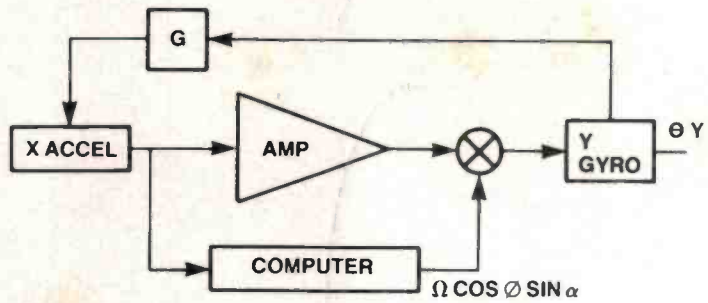

Figure 12. System alignment servo loops.
Fine alignment, together with gyro-compassing circuit configuration, is shown in Figure 12. The top feedback loop identifies levelling. This involves setting the pendulums of each accelerometer to the null position, each pendulum at 90° with respect to the other two. This is implemented by connecting the X-axis accelerometer output, via a function generator (G), to the Y-axis gyro and vice-versa. When the errors between the X and Y axes are zero, the Z or gravity axis is automatically in alignment. This provides one of the unknown vectors; gyro-compassing provides the other.
The bottom feedback loop in Figure 12 identifies the gyro-compassing circuit configuration. If left uncorrected, the platform Y-axis gyro would tilt under the influence of the Earth's spin vector. The angle of tilt is called the 'wander angle' or alpha ( $\alpha$ ). The system computer produces a set of acceleration